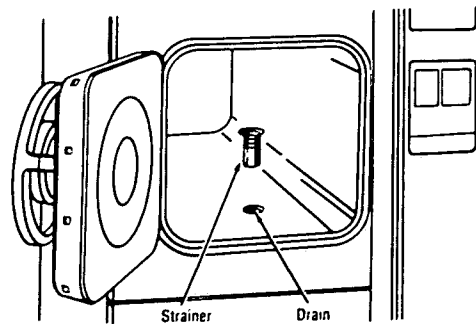

Figure 4-2. LOCATION OF CHAMBER DRAIN STRAINER.
- a. Remove chamber drain screen (Fig. 4-2).